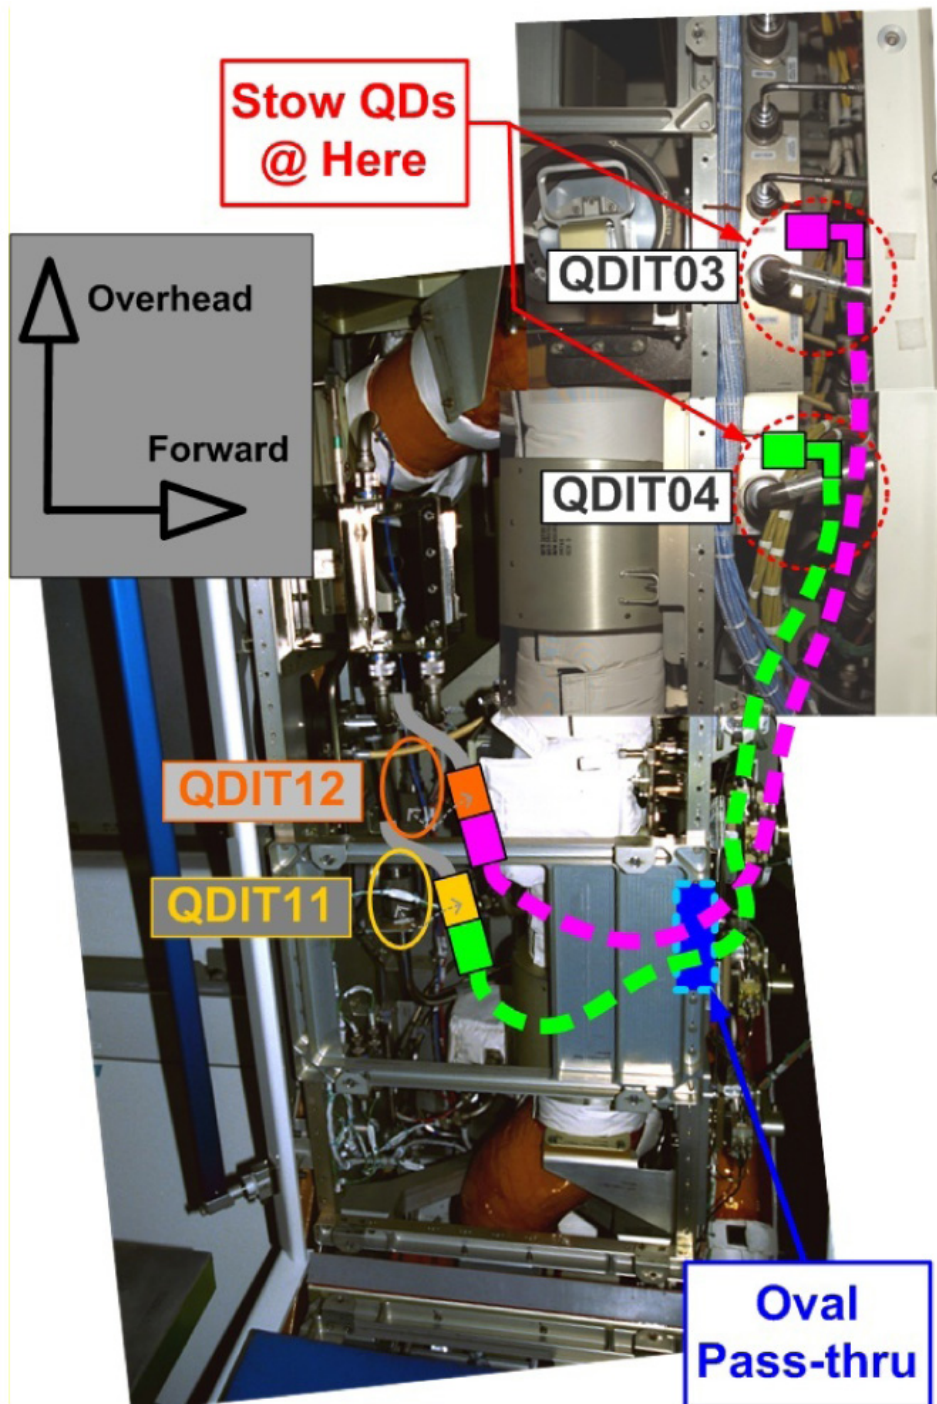

Figure 5. NOD1 MTL Supply and Return Hose Routing in N1 Port Alcove.
- 4.1 Locate the oval shaped pass-thru on the forward face of the Port Alcove box structure. Route NOD1 MTL Supply Hose (straight end) from area forward of box structure through pass-thru and into Port Alcove. Refer to Figure 5.
Refer to Figure 5.